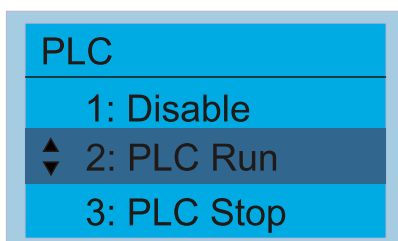

Figure 17-5
PLC functions are as shown in Figure 17-5 on the left; select item 2 PLC Run to enable the PLC functions.